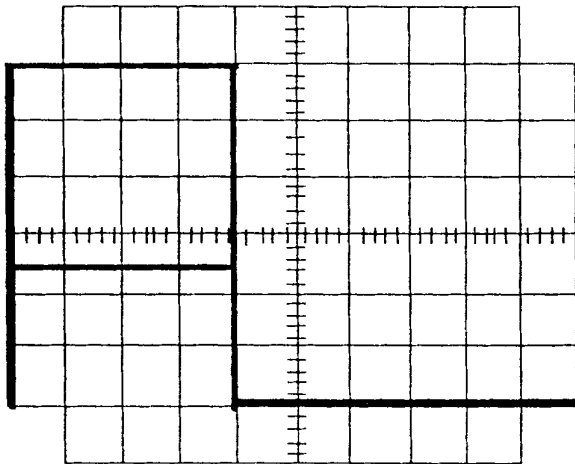
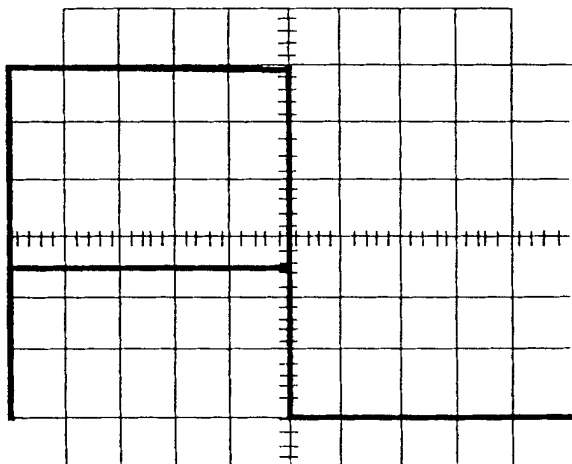

Fig. 13
Fig. 16
Mammomat C 3	Fig. 13 - Fig.17
- For 30 kV value to Fig. 13 and Fig. 16